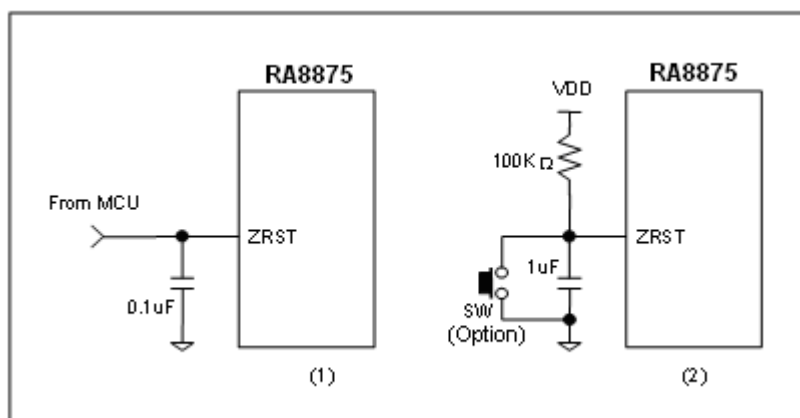

Figure 6-52 : Suggestion circuit for RST# Pin
Figure 6-52 is an example for Reset application circuit. It could be controlled by MCU such as (1) of Figure 6-52, or generated by a RC circuit such as (2) of Figure 6-52.